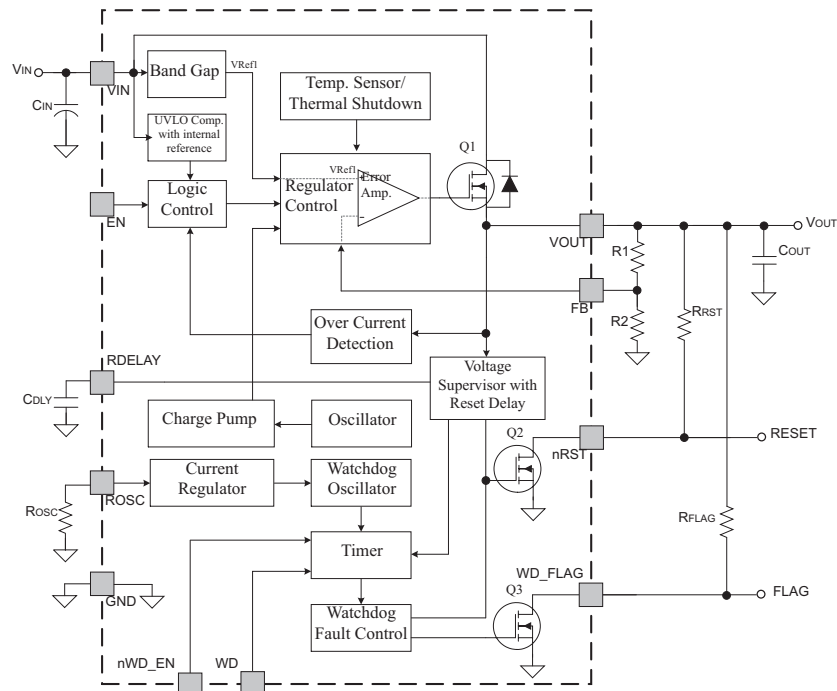

Figure 15. TPS7A6401-Q1 (Adjustable Output Voltage With Flag Output)
- $R1, R2$ = feedback resistors (see Figure 15)